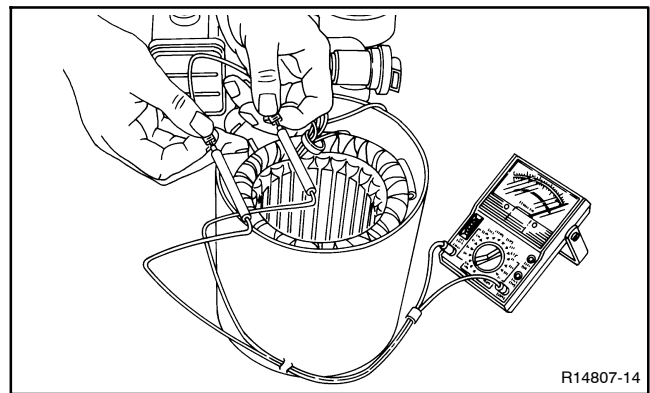

Figure 6-4 Testing Stator Windings
5. To check for stator continuity, set the ohmmeter on R x 1 scale. First set the ohmmeter zero by holding the red and black meter leads together and setting the ohmmeter reading to zero. Then check the stator continuity by connecting the meter leads to the stator leads as shown in Figure 6-4.